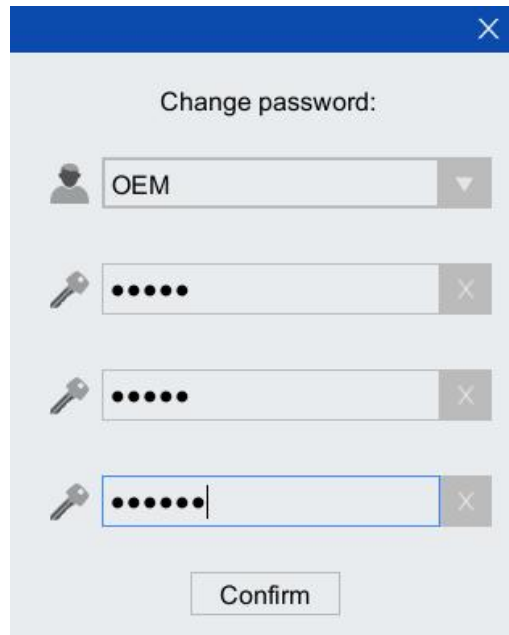
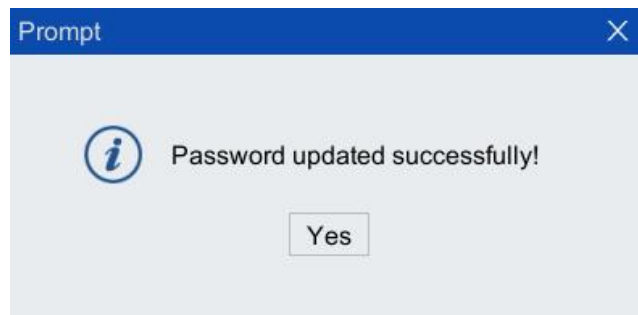

Figure 8-32 Password input complete interface
Figure 8-33 "Modify the password successfully!" "Prompt" box
Step2. The user can first enter the new password according to the prompt in the text box. After the input is completed (refer to Figure 8-32), click the <Confirm> button, and the "prompt" box of "Password updated Successfully!" as shown in Figure 8-33 will pop up , The password is changed successfully.